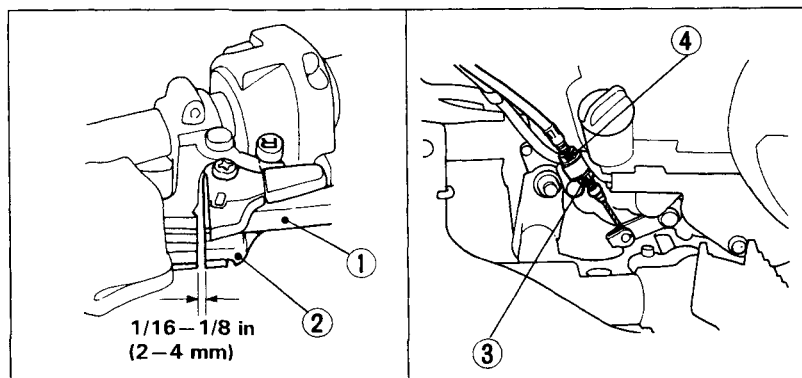

Fig. 4-17
Measure the reverse assist lever (2) free play. Free play, measured at the lever (2) end near the cable (Fig. 4-17), should be within 1/16—1/8 in (2—4 mm).